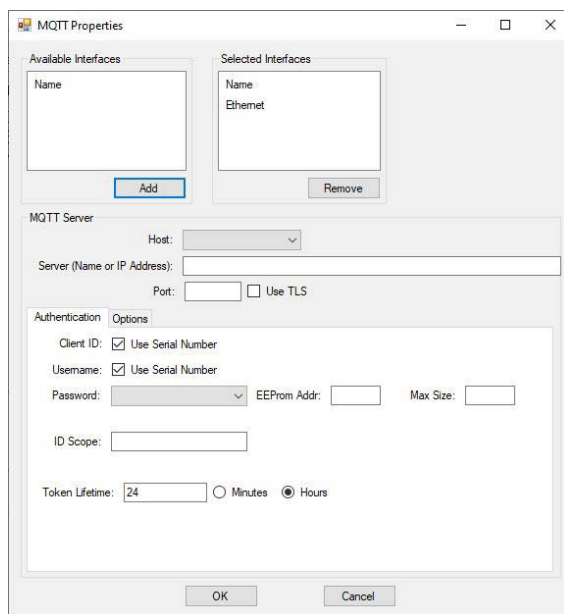

Figure 28-4
6. Select (highlight) the communications method in the Available Interfaces pane and click the **ADD** button. The selected method will now be moved from the **Available Interfaces** pane to the **Selected Interfaces** pane. Refer to Figure 28-4.